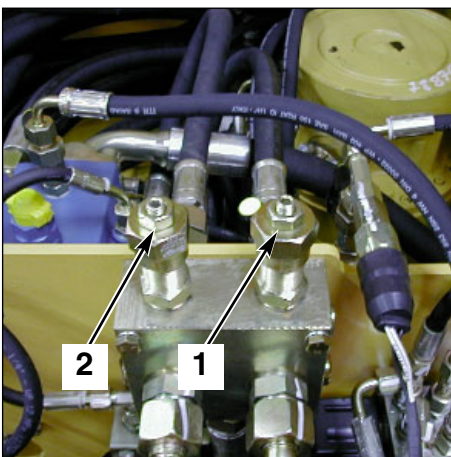

Fig. 2 Cross-over unit
- 3- Loosen the lock nut and turn the screw (1 fig. 2) of the cross-over valve clockwise in order to increase the ΔP of the right side.